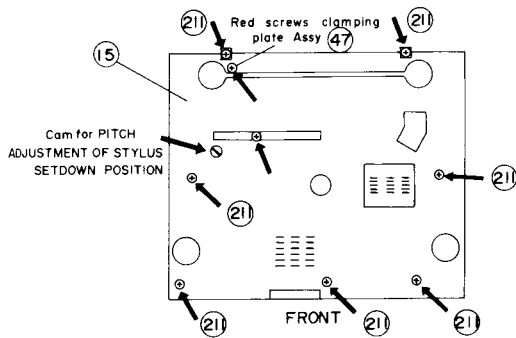

Figure 3
- (2) Place the unit upside down on a suitable bench. Remove seven screws "21" which mount the Cabinet bottom "15" as shown in Figure 3.